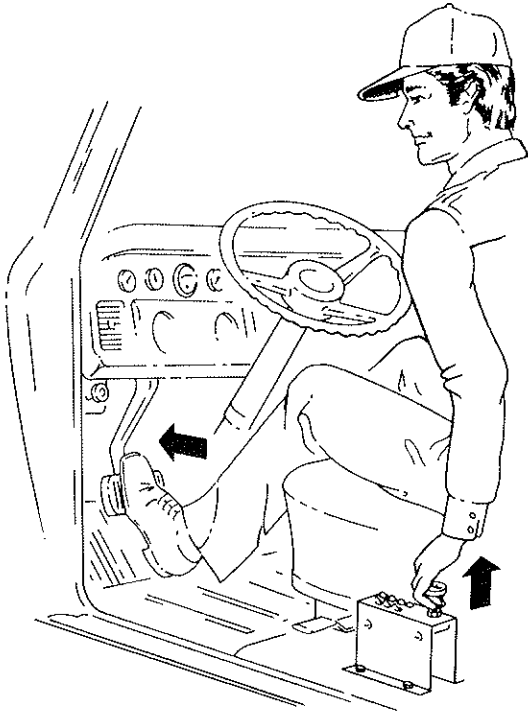

FIG. 3.1
3.1 Reduce engine to idle, depress truck clutch and engage P.T.O. by pulling out knob located on CENTURY switch panel. (FIG. 3.1)